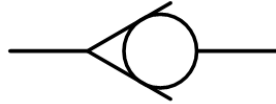

FIG 7.
C. The symbol for a check / non return valve without spring return is shown in Fig 7.